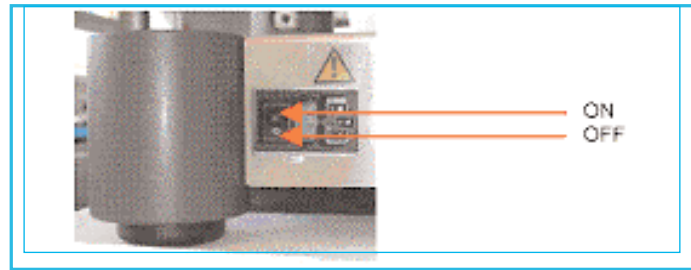

Figure 1. Main switch at the back of the UltraPlex™ SmartStation
1. Switch on the UltraPlex™ SmartStation using the main switch located at the rear right-hand corner of the instrument (Figure 1).
3. Once the software has closed down, switch the main switch to the off position (see Figure 1). The UltraPlex™ SmartStation will shut down.